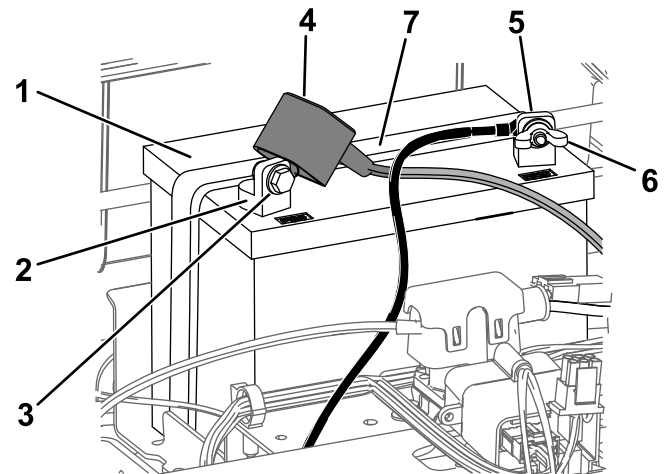

Figure 42
4. Disconnect the negative (black) ground cable from the battery post (Figure 42).
6. Disconnect the positive (red) cable from the battery post (Figure 42).
7. Remove the battery hold-down (Figure 42), and lift the battery from the battery tray.
1. Position the battery in the tray (Figure 42).
5. Secure the battery with the hold-down (Figure 42).